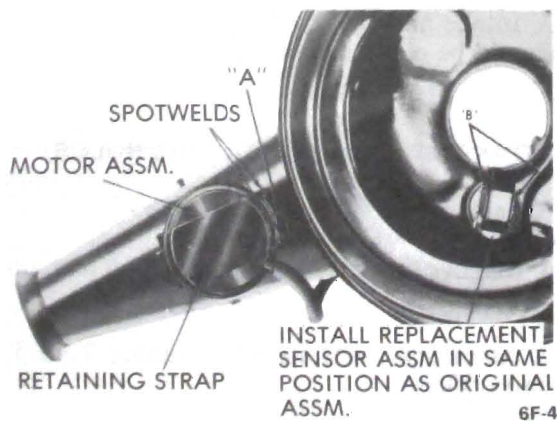

Figure 6F-11 - Replacing Vacuum Motor Assembly
3. Remove vacuum motor retainer strap. See Figure 6F- 11.
5. Drill a 7/64" hole in snorkel tube at point "A" as shown in Figure 6F-11.